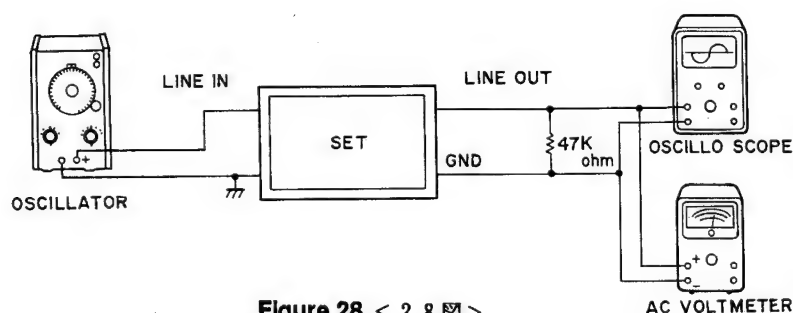

Figure 28 < 28図 >
- (1) Make the connections as shown in Figure 28 and turn the power ON.
- (2) Insert the metal tape (TDK AC-712) into deck B and set to REC PLAY mode. Set the REC LEVEL volume to the maximum.
- (3) Input the signal that has been reduced by 25 dB from the 400 Hz/150 mV \pm 2 dB signal (DOLBY LEVEL reference input) to the line input, and set the output value of the line output L (R) to the reference value.
- (4) Adjust VR5071 (VR5072) so that the output value of the line output L (R) becomes equal to the reference value when the signal that has been reduced by 25 dB from the 12.5 kHz/150mV \pm 2 dB signal is input to the line input.
- (5) Insert the CrO₂ tape (TDK AC-512) as in (2), and set to REC PLAY mode. Input the signal that has been reduced by 25 dB from the 400 Hz/150 mV \pm 2 dB signal (DOLBY LEVEL reference input), and set the output value of the line output L (R) to the reference value as in (3) and (4). Adjust VR5073 (VR5074) so that the output level when the 12.5 kHz/-25 dB signal is input becomes equal to the reference value.
- (6) Insert the normal tape (TDK AC-223) as in (2), and set to REC PLAY mode. Input the signal that has been reduced by 25 dB from the 400 Hz/150 mV \pm 2 dB signal (DOLBY LEVEL reference input), and set the output value of the line output L (R) to the reference value as in (3) and (4). Adjust VR5075 (VR5076) so that the output level when the 12.5 kHz/-25 dB signal is input becomes equal to the reference value.